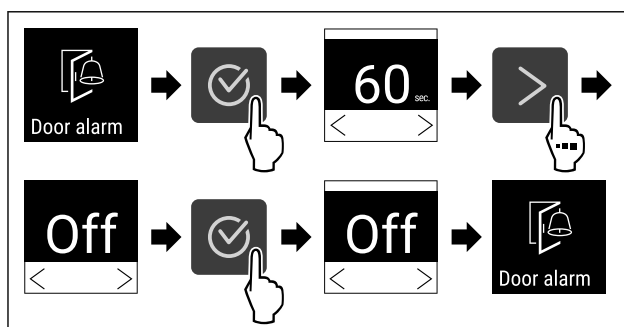

Fig. 96
- ▶ Carry out steps (see Fig. 96) .